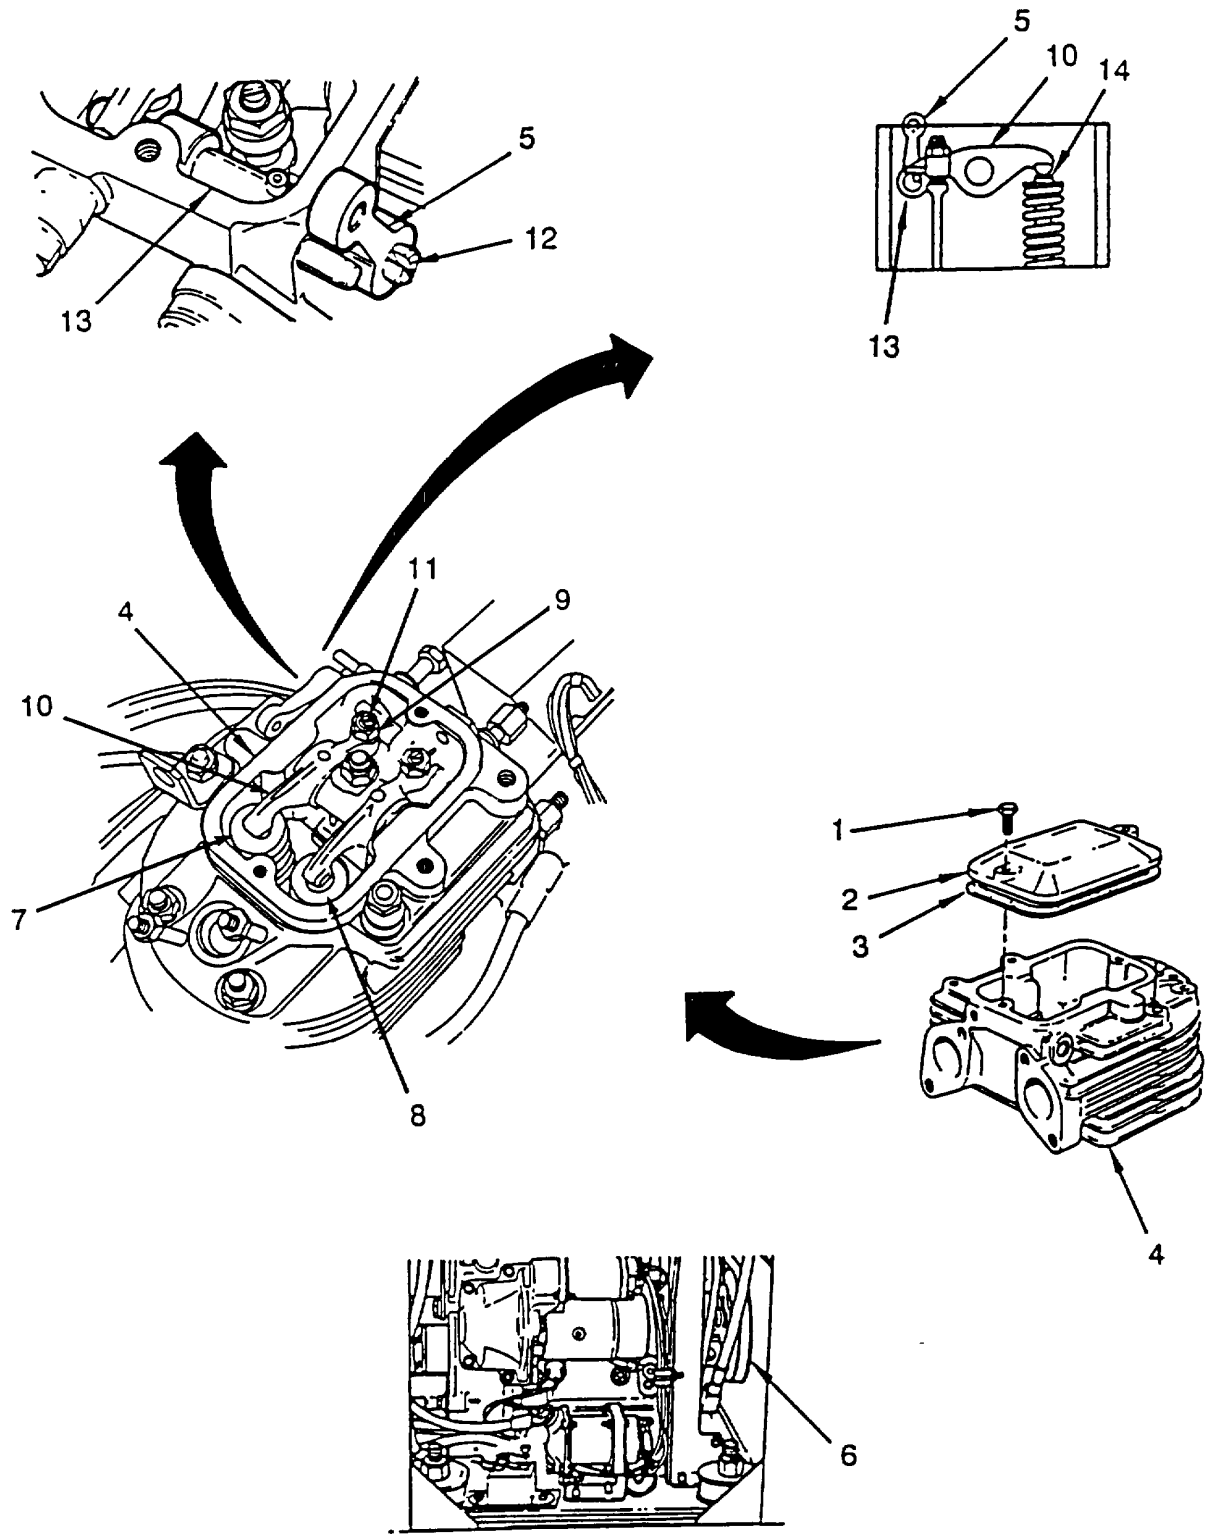

Figure 5-24. Intake and Exhaust Valves and Decompression Lever Adjustment
(1) Removal. (Refer to Figure 5-24).
- (a) Remove two screws (1), cover (2), and gasket (3) from cylinder head(4).
- (b) Clean excess gasket material (3) off of cylinder head (4) and cover (2).
(2) Adjustment.